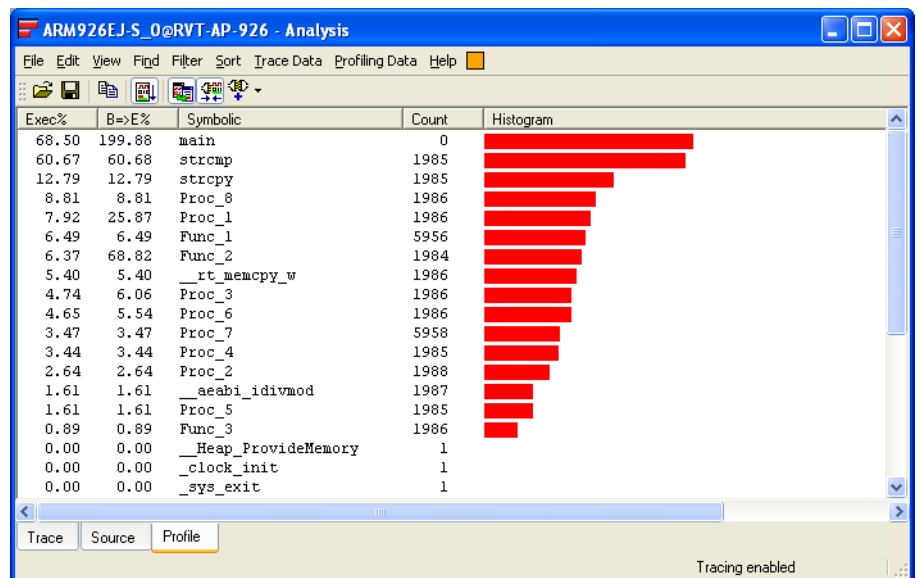
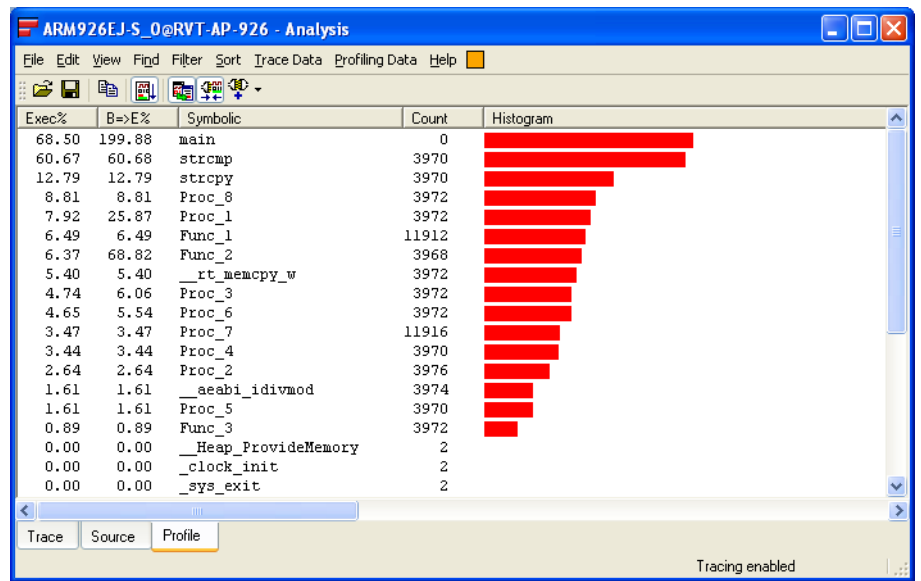
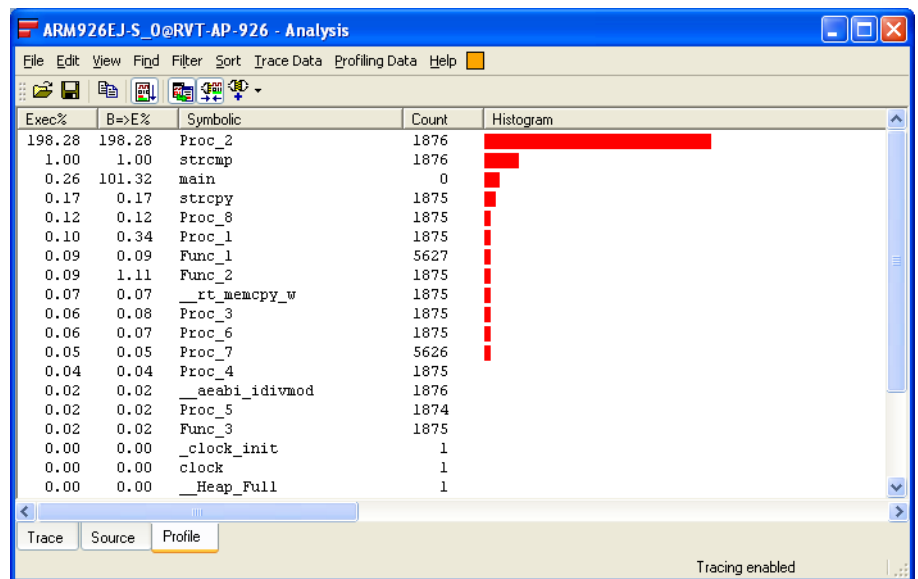

Figure 10-88 Results displayed in the Profile tab (Normal packing)
Figure 10-91 Summing profiling data over multiple runs
Figure 10-92 Results displayed in the Profile tab (Quad packing)
1. In the Analysis window, click the **Profile** tab to display the profile data. Figure 10-88 shows an example:
In the **Profile** tab, as shown in Figure 10-88 on page 10-86, the execution times for all functions accessed during the for loop are displayed, and a graphical representation of their respective execution times is shown in the Histogram column.
6. When prompted, enter **5000** for the number of runs through the benchmark. The profiling data is updated. Figure 10-91 on page 10-89 shows an example:
Compare Figure 10-91 with Figure 10-88 on page 10-86. The summing of profiling data reveals the following information:
Figure 10-92 shows the profiling results obtained with a 4-bit trace data width and Quad packing. Compare the results with those in Figure 10-88 on page 10-86.